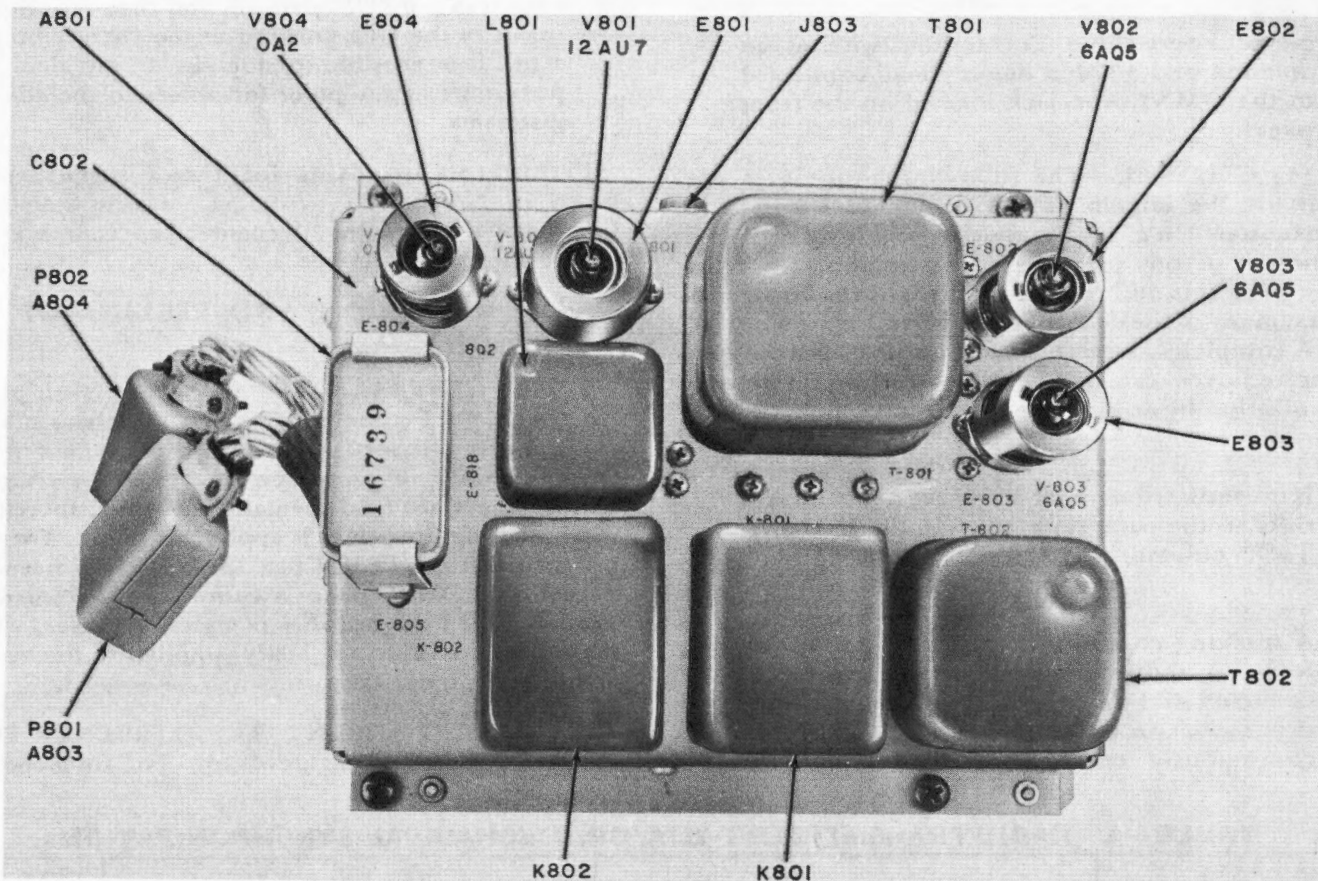

Figure 6-13. Radio Receiver R-278B/GR, Audio Amplifier, Top View
Step 5. Check carrier-operated relay K801 (figure 6-13). K801 must energize near the maximum RF GAIN control setting.
**(9) RECEIVER RESETABILITY.**—The purpose of the resetability test is to check the Receiver's ability to reset itself after being positioned to another frequency and then back to the original frequency.